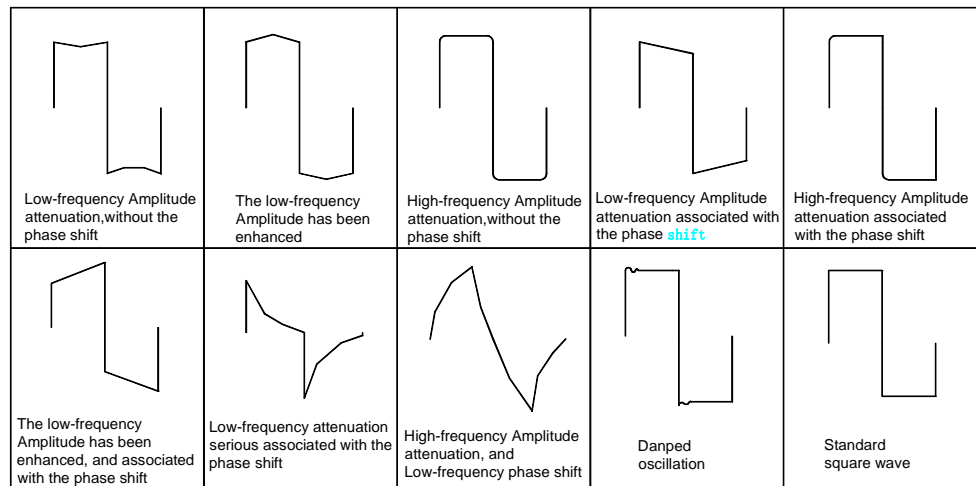

Figure4-3
- Observed through the oscilloscope amplifier output waveform, must get something with frequency figure 4-3 shows some possible conditions.